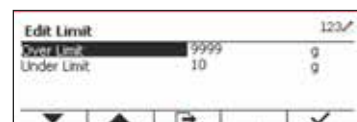

Figure 56
2. Select Over or Under Limit and press the button corresponding to the  icon to edit value. (See Figure 56)